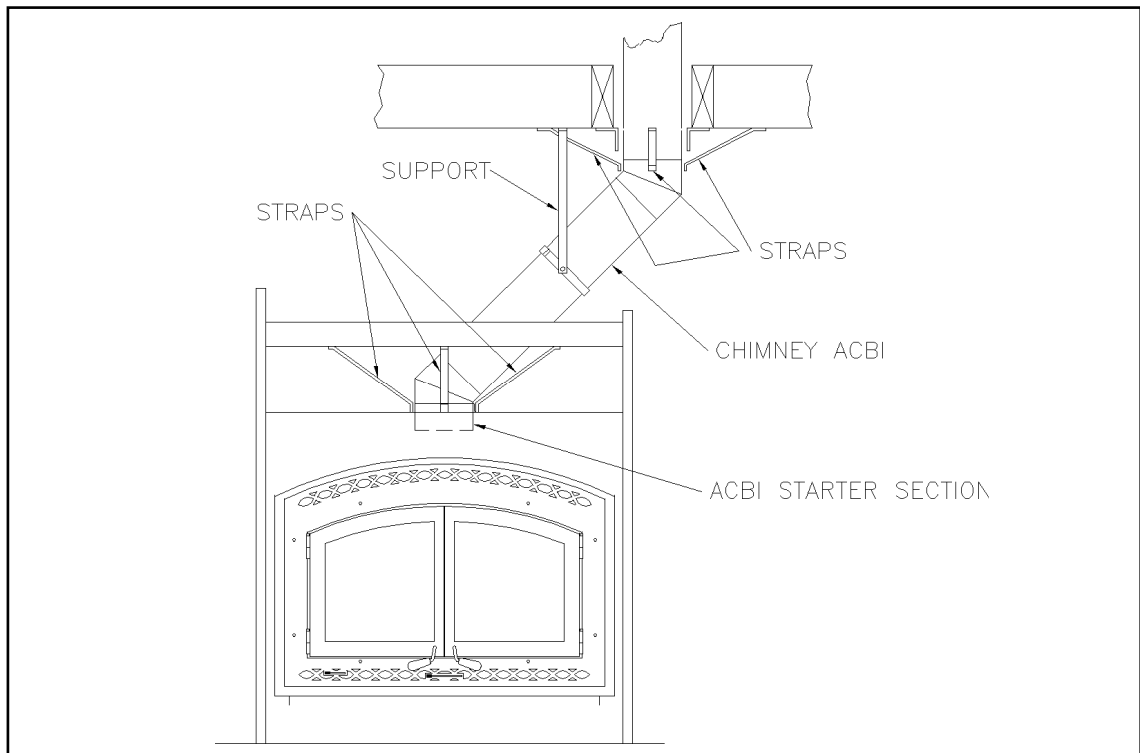

Figure 33
1. Install the first elbow. Turn it in the required direction. To lock it in place, turn 1/8 of a turn. Fasten the straps attached to the elbow to the surrounding frame, using nails or drywall screws (figure 33).